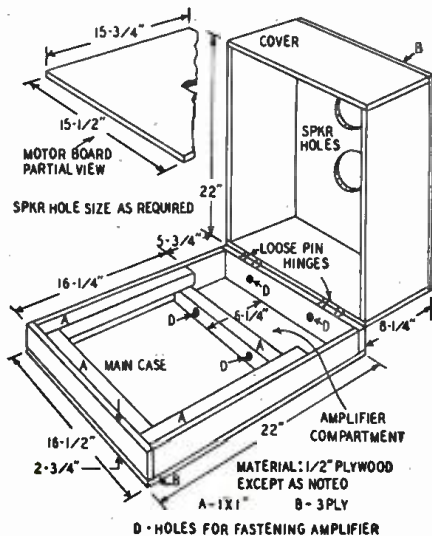

Fig. 5—How to make amplifier-recorder case.
The construction of the case is shown in detail in Fig. 5. These dimensions will do for almost any 12-inch recording mechanism. The one shown in the photo is a prewar Rek-O-Cut. An overhead-lathe mechanism almost always gives superior results to a swinging-arm unit, and the case cover is high enough to accommodate most lathes.
**Miscellaneous:** 1—meter rectifier; 1—0-1-ma d.c. meter; 1—6-volt pilot-light assembly; 4—octal, 2—4-prong tube sockets; 1—threaded rod and shaft coupler for "gear shift"; wood for case (see Fig. 5); loud-speaker(s); loose-pin hinges; trunk catches; knobs, hardware, etc.